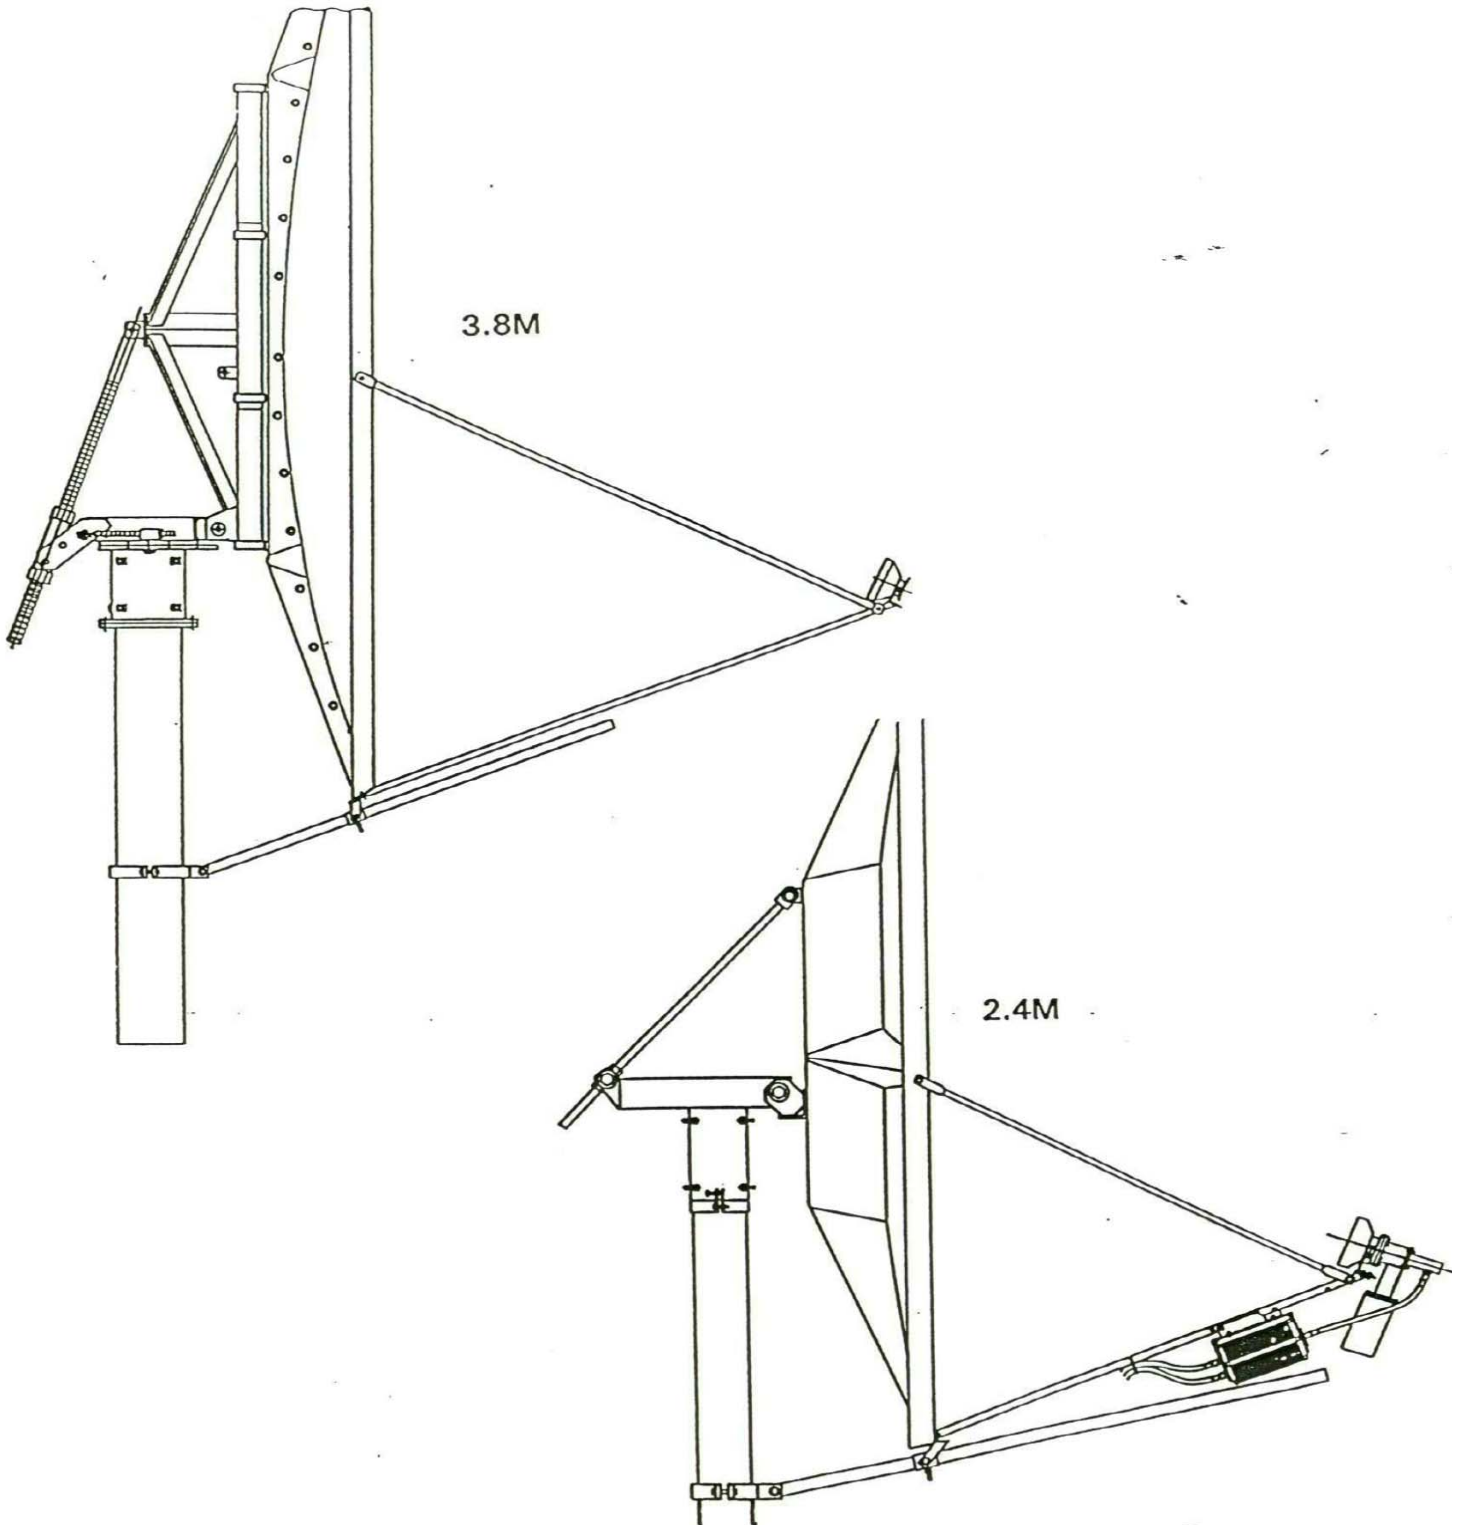

Figure 1
- STEP 5: By sliding the mast collar up or down the mast, you can position the feed stabilization tube as parallel to the feed support tube as the feed components allow. See in figure 1. Tighten the mast collar hardware, keeping the stabilization tube in-line with the feed support tube.